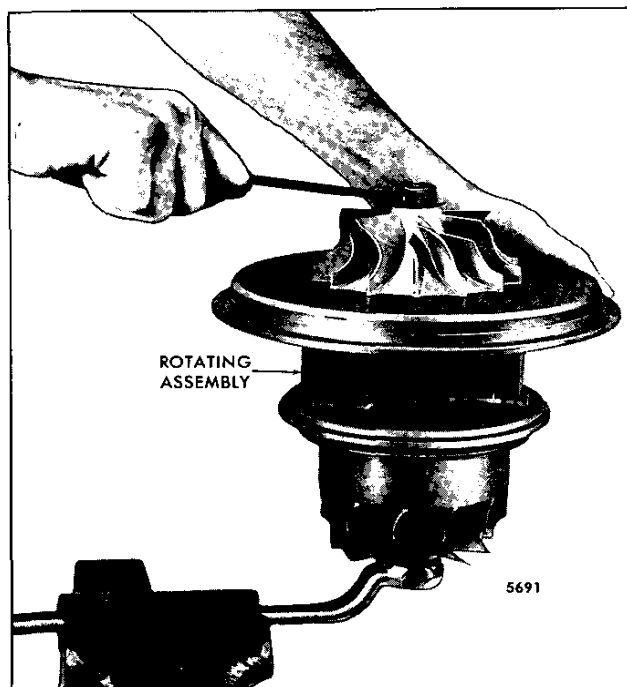

Fig. 5 – Removing Compressor Wheel Lock Nut
5. With the turbine wheel lug of the rotating assembly in a 1" wrench (Fig. 5), remove and discard the compressor wheel lock nut.